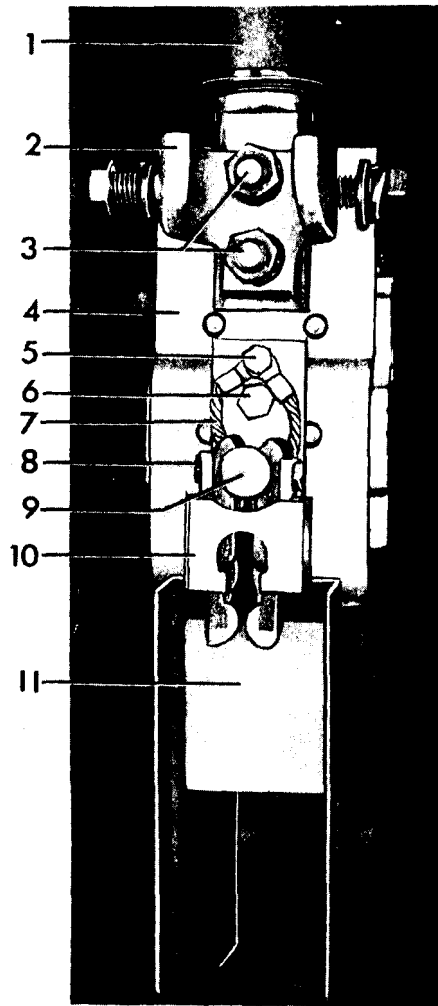
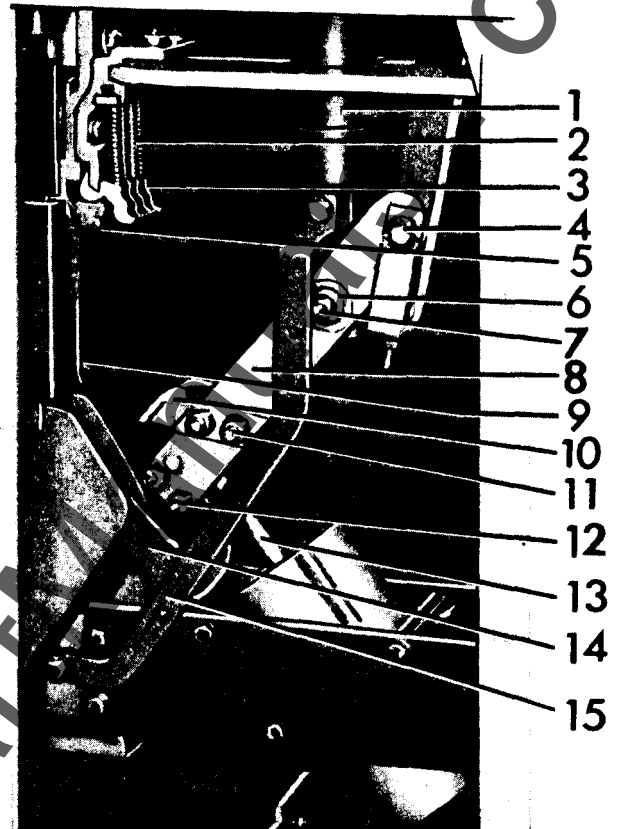

Figure 22. (8039586) Rear Bushing Assembly
Figure 23. (8038805) Contact Assembly
3. The stationary primary contact fingers (3) Figure 23, should be disassembled and the silver-plated pivot area of the contact and contact support cleaned and lubricated with G-E lubricant D50H47.
##### A. Stationary Arcing Contacts (10) Figure 22.
1. Disconnect the contact braids (7) from the contact fingers by removing two bolts and locking plates (8).
3. To disassemble braids from stud plate remove one bolt (5).
4. To disassemble stud plate from contact support, remove two bolts (6).
5. Reassemble in the reverse order, make sure locking plates are properly reassembled with bolts (8).
##### B. Movable Arcing Contact (14) Figure 23.
1. Remove the assembly bolts (12) making note of quantity and location of shims and spacers used between contacts and contact arms.
3. Close the breaker slowly to check that the movable arcing contact is approximately centered on the stationary arcing contact and that it does not rub on either side of the throat barrier (9).
**D. Movable Primary Contacts (10) Figure 23.**
1. Disassemble operating rod pin (4), first noting quantity and location of washers in the assembly.
2. Pry contact arms (8) apart enough to disengage pivot pins of piston assembly (13) allowing piston to drop down into its booster cylinder.
3. Rotate the two parts of the contact arm assembly away from each other so assembly bolts (11) are accessible and movable primary contacts (10) can be removed.
**E. Contact Arm Assembly (8, 10, 13, 14) Figure 23.**
1. Remove connection bar (15).
2. Disassemble hinge pin (7), cup bearing (6) and operating rod pin (4) noting quantity and location of any washers and spacers used in assemblies.
3. The contact arm assembly including the piston assembly (13) can now be removed.
4. When reassembling, first insert piston tube assembly (13) into the booster cylinder and reassemble the cup bearing, making sure the silvered contact washers between the bushing and contact arms (both sides) are in place.
5. Reassemble operating rod pin (4) and connection bar (15).
5. Disassemble the spring retainer (4) by removing mounting bolts (5).
6. Referring to Figure 22, disassemble the contact support (4) and interrupter mount-
3. Remove the connection bar (15) Figure 23, cup bearing (6) and hinge pin (7).
5. When reassembling, first mount the bushing and assemble the cup bearing (6), contact arm (8), and replace pin (7) being sure the silvered contact washers between the bushing and contact arms are in place. The contact surfaces at the hinge point of the contact blade and bushing should have a thin coating of D50H47 grease.